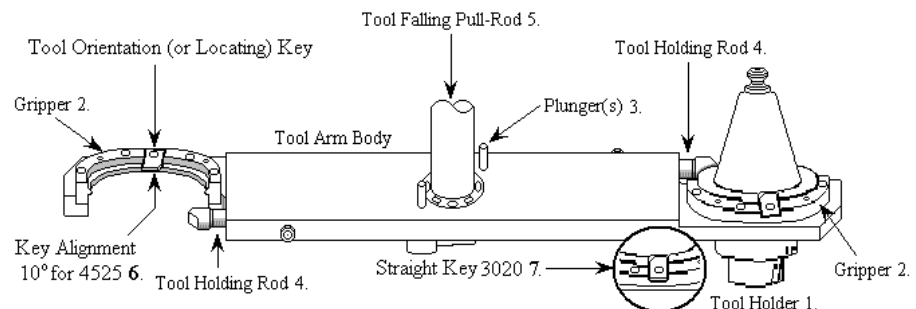

Figure 5-19 Pull Motor Brake Switch
- 25) Recheck the level and alignment of the ATC for front to back and side to side. If necessary, re-adjust the alignment and tighten the ATC into position. See Figure 5-19.